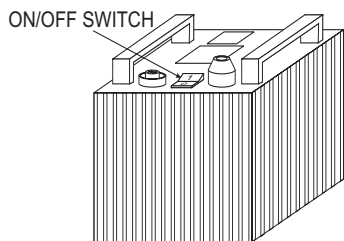

Figure 31. Power OFF/ON Switch
1. Make sure the power ON/OFF switch (Figure 31) located on the ballast is in the **OFF** position.
1. Place the power ON/OFF switch (Figure 31) in the **OFF** position.